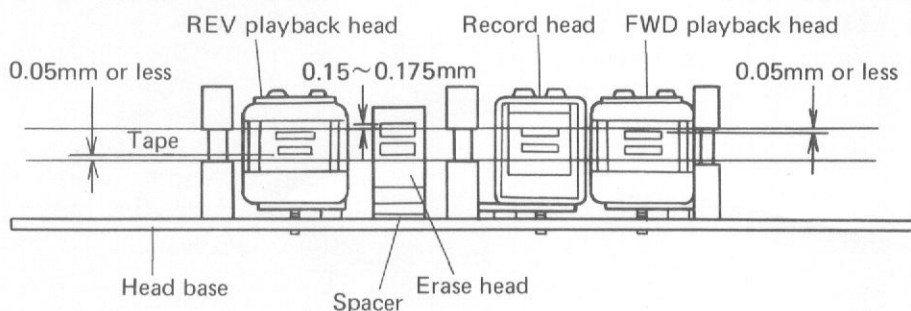
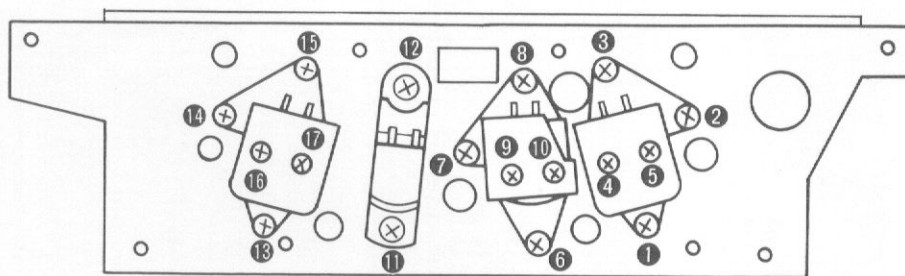

Fig. 30
Fig. 31
Adjust the screws of Fig. 31 so that the heads and tape become the dimensions shown in Fig. 30 when the tape has been run.
*When the height of the erase head is not the dimension given in Fig. 30, loosen screws 11, 12 and adjust the height by inserting an adjustment spacer under the head.
Adjust the screws of Fig. 31 so that the top and bottom of the front of the head contact the tape uniformly when the tape is running.
Adjust the screws of Fig. 31 so that the head gaps are at right angles to the tape.
1. Adjust screw ② (REV PLAY ... ⑭) of Fig. 31 for maximum output level at both the L and R channels. The difference in the L and R channels output does not require attention unless it is too large.
2. When the output difference is excessive, loosen screws ④, ⑤ (REV PLAY... ⑰, ⑱) and determine the optimum position while turning the head within the horizontal plane (left, right).
1. Adjust screws ⑥, ⑦, and ⑧ of Fig. 30 for maximum R channel output level at the voltmeter (millivoltmeter) connected to the LINE OUTPUT terminals.
2. Next, apply a 15kHz signal, set to the simultaneous record/play mode and fine adjust screw ⑦ of Fig. 30 for maximum L and R channel output.
4. When there is a difference in the L and R channel output, loosen screws ⑨, ⑩ of Fig. 30 and determine the optimum position while turning the head in the horizontal plane (left, right).